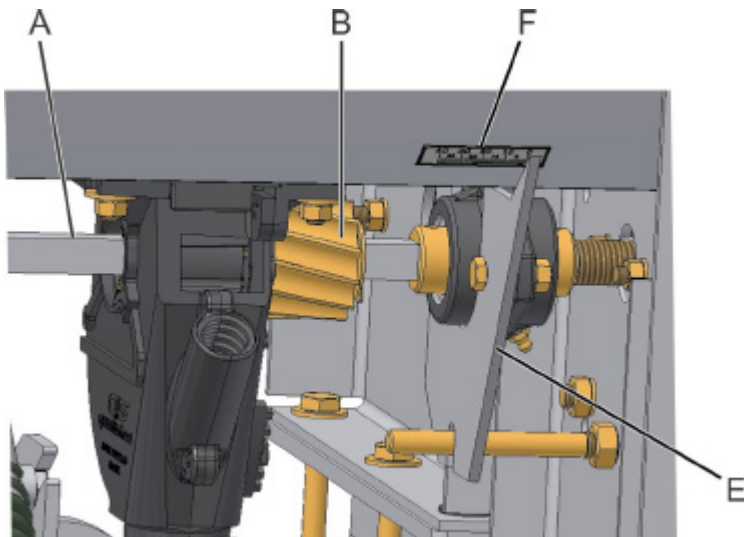
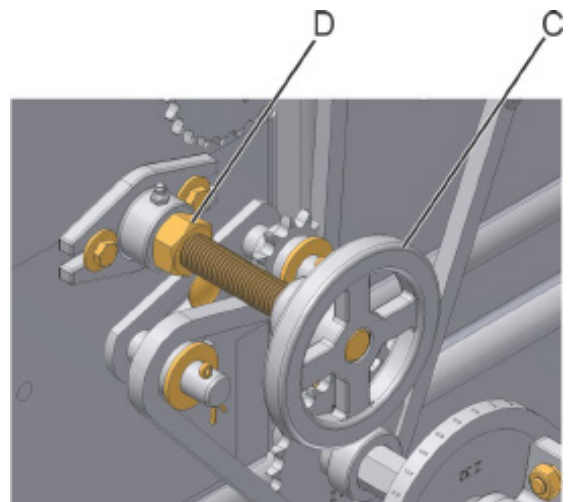

fig. 15
fig. 16
The adjustment procedure is executed by moving the shaft (A) (fig. 15) increasing or reducing the work opening of the rotors (B) in the distribution box, through the handwheel (C) (fig. 16). After obtaining the seed flow required, fasten the regulating handwheel through the anchor nut (D).
Note the position of the indicator (E) (fig. 15) on the millimetric scale (F) to obtain the approximate adjustment through the indicating tables as per the cultivation to be established.